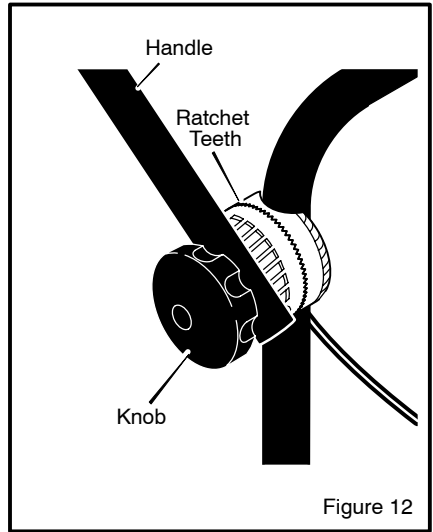

Figure 12
1. Hold the **handle** with one hand and loosen both **knobs** until the **ratchet teeth** are disengaged. Do not remove the **knobs**. See Figure 12.